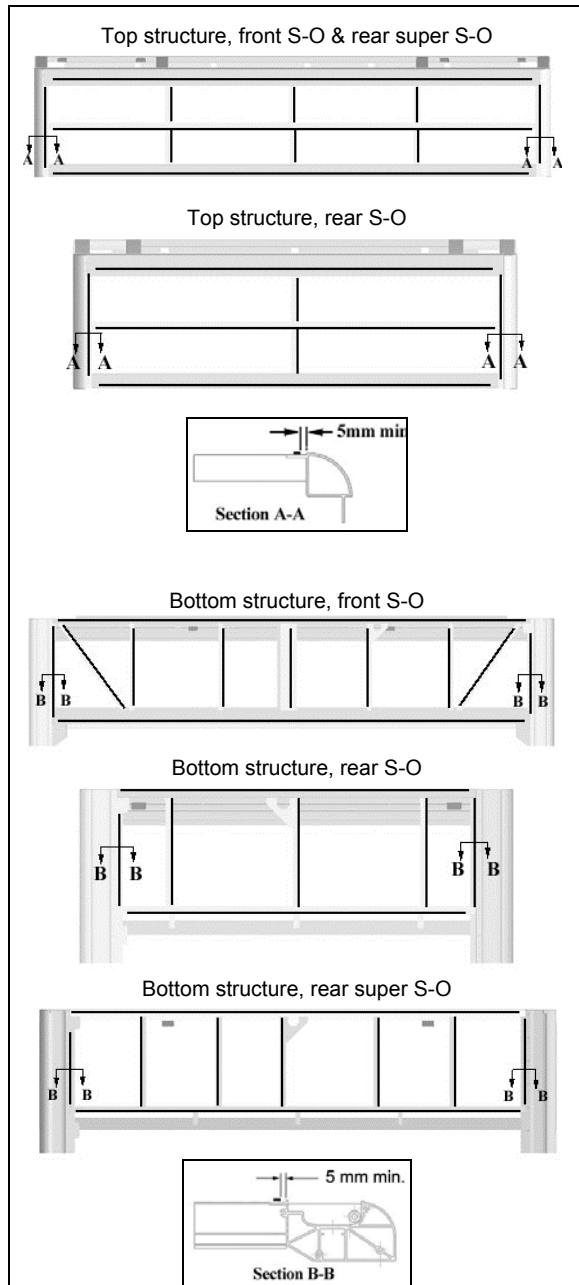

FIGURE 50 : TOP AND BOTTOM PANEL INSTALLATION - DOUBLE FACE ADHESIVE TAPE APPLICATION
2. Refer to FIGURE 50 for 1/16x1/4 double face adhesive tape location on structure [5mm≈6/32"];